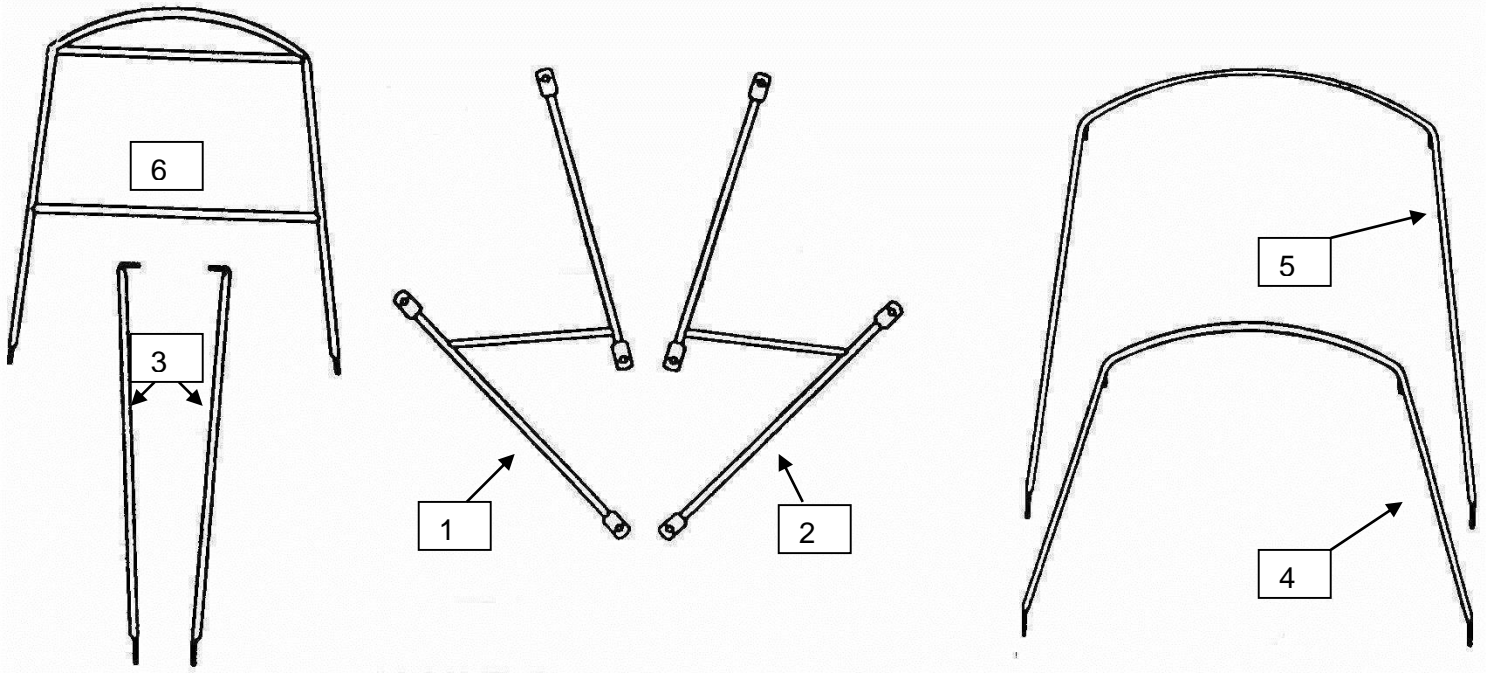

Figure 1
Step 1; See Figure 1:
Identify all of the steel parts using figure 1 as an example.